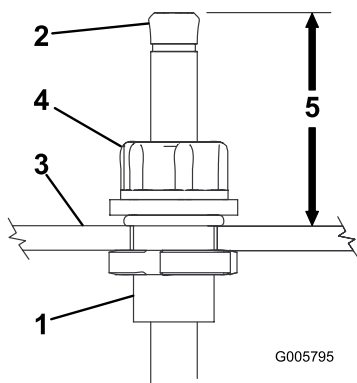

Figure 18
6. Adjust the rinse nozzle assembly position so the top of the **un-threaded** end of the tube stands approximately 10 cm (4 inches) from the tank surface (Figure 18).
7. Set the tube height by tightening the larger retainer nut installed above (Figure 18).